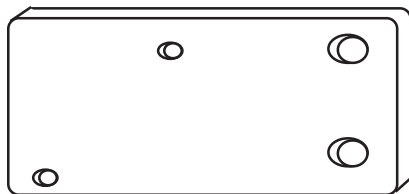

Figure 8
3. Install Control valve for Cab Model. The control valve for the cab model bolts onto the tractor frame (Casting) after the mower frame is installed. The valve must be mounted to the valve mount plate before it is bolted onto the tractor. There are two different valve mount plates (See Figure 8 & 9A). Insert the cables down through the hole in the floor (See Figure 9). The cables and wire harness will have screw down cable boot over it (See Figure 11). Make certain to run the cables through this cover before connecting them at the ends as once the cables are connected they cannot be run through the boot. The wire harness can be run through later if wanted.